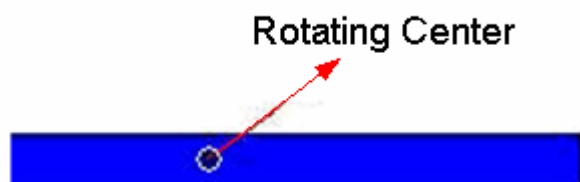

Figure 3-28 Rotation center
---Rotation: Please refer to 3.1.7 for Rotating Objects. The selected Rotation center is as shown in Figure 3-28.